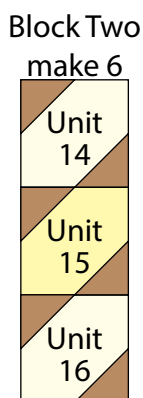

Fig. 35
29. Sew together (1) Unit 14 square, (1) Unit 15 square and (1) Unit 16 square, in that order from top to bottom, to make (1) 4 1/2" x 12 1/2" Block Two strip (Fig. 35). Repeat to make (6) Block Two strips total.